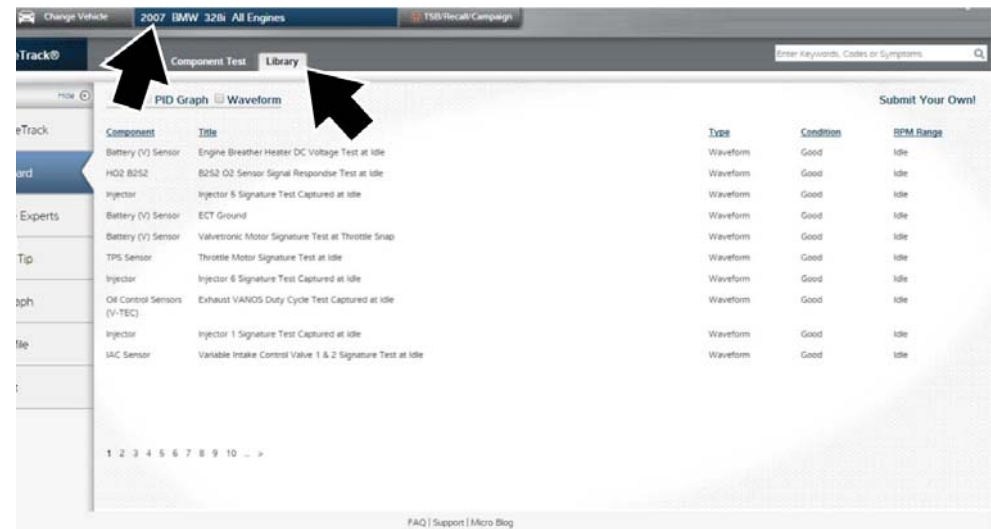

Figure 12-43 SureTrack - Library tab showing list of waveform examples
3. Enter (identify) the test vehicle details in the search field at the top of the screen (Figure 12-43).
4. Select the Dashboard tab (left side) (Figure 12-43).
If waveform and/or PID graph examples are available, the Library tab will be displayed at the top (Figure 12-43).
5. Select the **Library** tab (Figure 12-43). A list of examples is displayed and sortable by selecting the PID Graph and/or Waveform check boxes at the top.